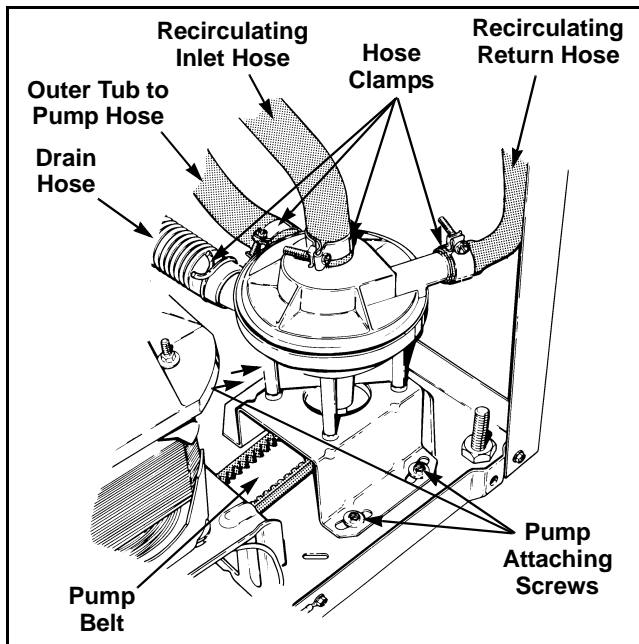

Figure 22
- c. Loosen two front mounting screws and one rear mounting screw holding pump and bracket to washer base. Refer to *Figure 22*. Pivot entire assembly toward motor to loosen belt tension.